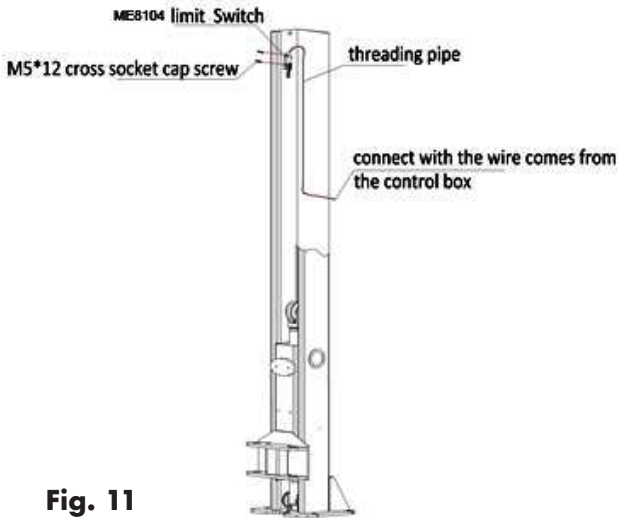

Fig. 11
2. Fix the limit switch into the power side post (fig. 11). Picture **E** on page **45** shows the screws that must be used.